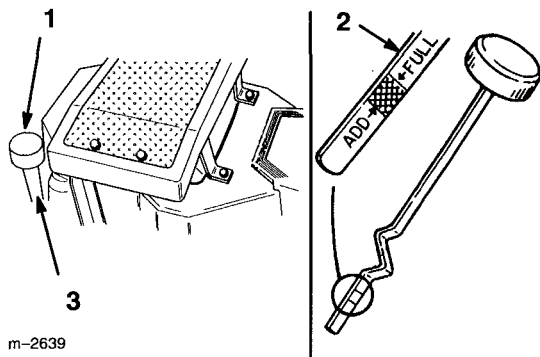

Figure 17
2. Clean around the oil dipstick (Fig. 17) so dirt cannot fall into the filler hole and damage the engine.
3. Unscrew the oil dipstick and wipe the metal end clean (Fig. 17).
4. Slide the oil dipstick fully into the filler tube, do not thread onto tube (Fig. 17). Pull the dipstick out and look at the metal end. If oil level is low, slowly pour only enough oil into the filler tube to raise the level to the "FULL" mark.
6. Slowly pour approximately 80% of the specified amount of oil specified, page 22, into the filler tube (Fig. 17). Now check the oil level; refer to Checking Oil Level, page 23. Slowly add additional oil to bring to "FULL" mark on dipstick.